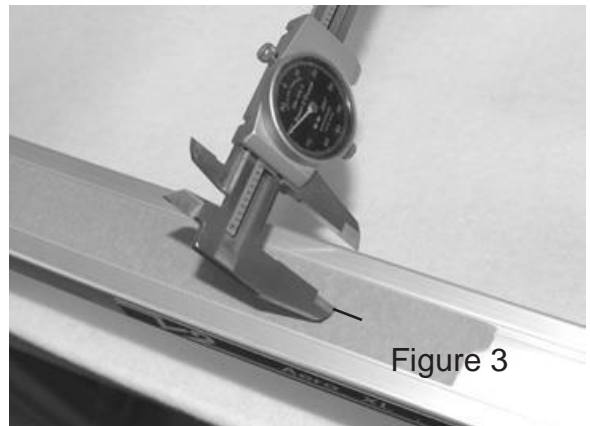
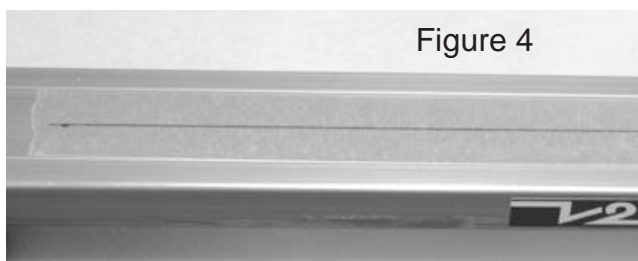

Figure 3
Figure 4
- 3- Put a center mark on the tape, at both ends, as shown in Figure 3 and draw a line connecting the marks as shown in Figure 4.